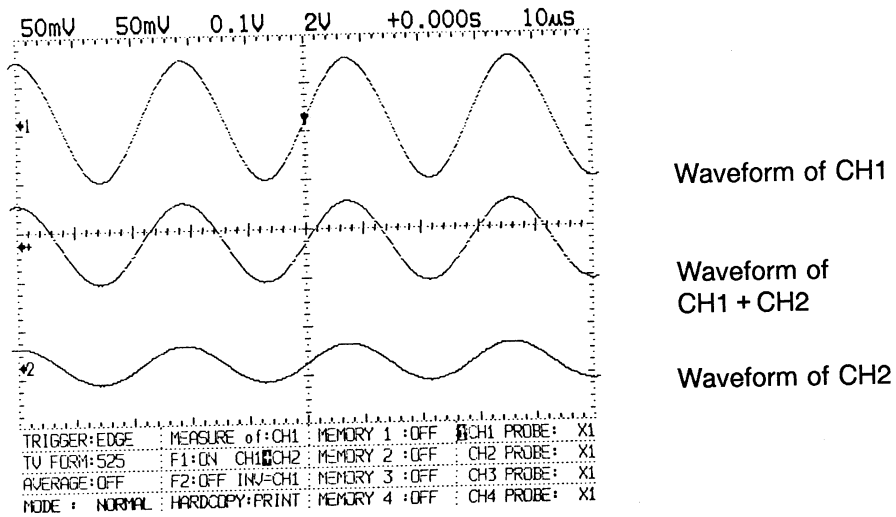

Fig. 6-29 Example of CH1 + CH2 selected by operation 1 (F1)
(3) Display of added waveform (+)
- An example of the CH1 input waveform plus the CH2 input waveform is shown in Fig. 6-29.